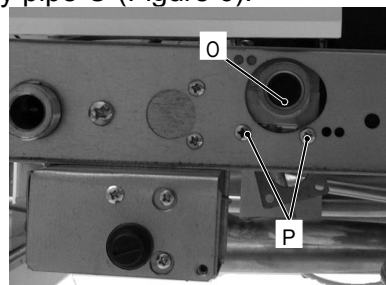

Figure 6
- 3) Turn off the gas supply and remove the gas supply pipe O (Figure 6).
- 6) Loosen the screws P (Figure 6).